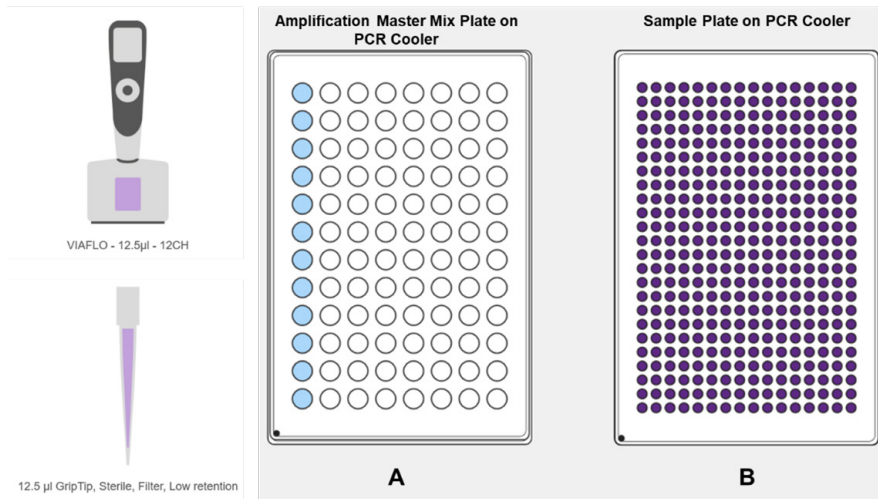

Figure 7: RO384_01_RT.
8. Place the cold 96-well and 384-well PCR cooling blocks onto the ASSIST PLUS deck at Positions A and B, respectively (Figure 7).
9. Place the **Amplification Master Mix Plate** on the 96-well PCR cooling block in Position A and place the sample plate on the 384-well PCR cooling block in Position B with position A1 of both plates in the bottom left corner, as indicated by the dot in Figure 7.